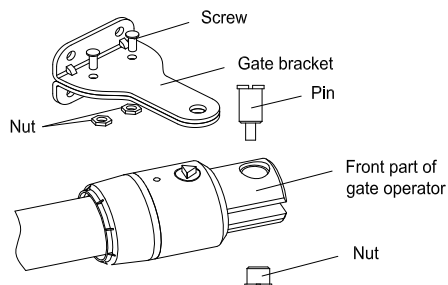

Fig.8
- Mount the front part of gate operator on the bracket using the pin and nut supplied. See Fig.8.